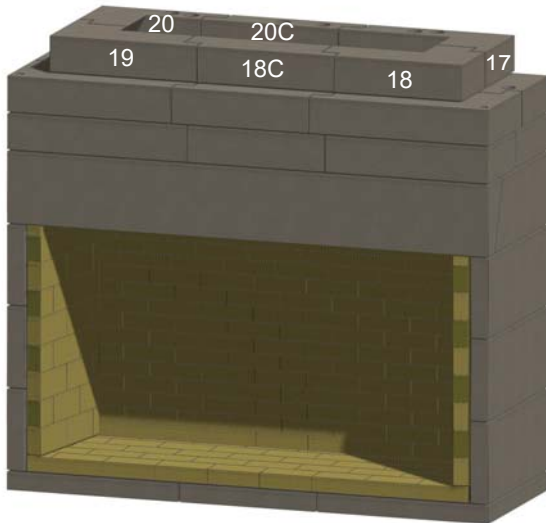

Figure 16. Upper Throat Level
K. Install the first smaller ring of the upper throat components, consisting of items 17, 18, 18C, 19, 20 and 20C. Ensure the ring is centered. See Figure 16.